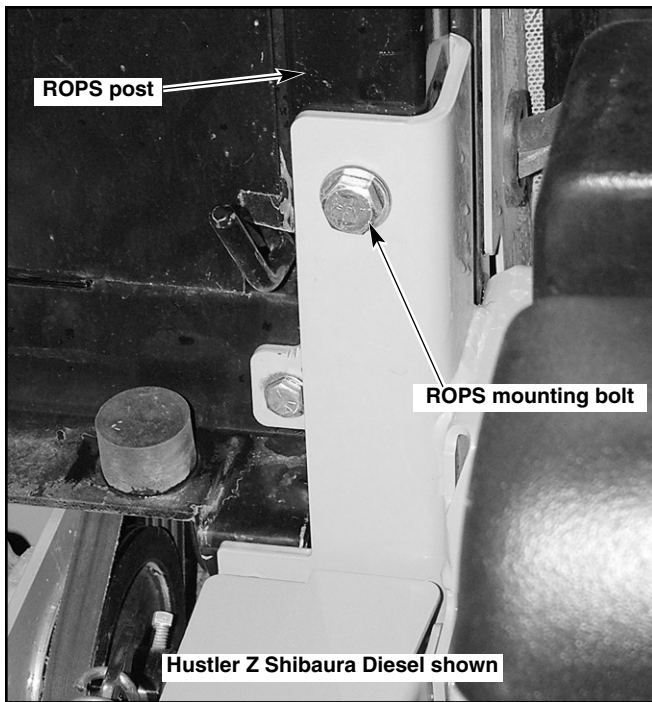

Figure 3-11
1. Check the torque of the ROPS mounting bolts. Tighten the bolts to the correct torques as shown below if necessary. Fig. 3-11, 3-12 & 3-13